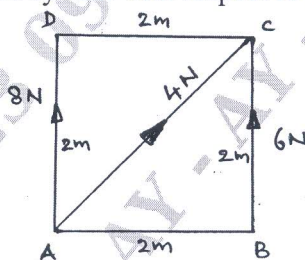

Fig.Q2(a)
- 2 a. Determine the resultant of the force system with respect to point B. [Refer Fig.Q2(a)]